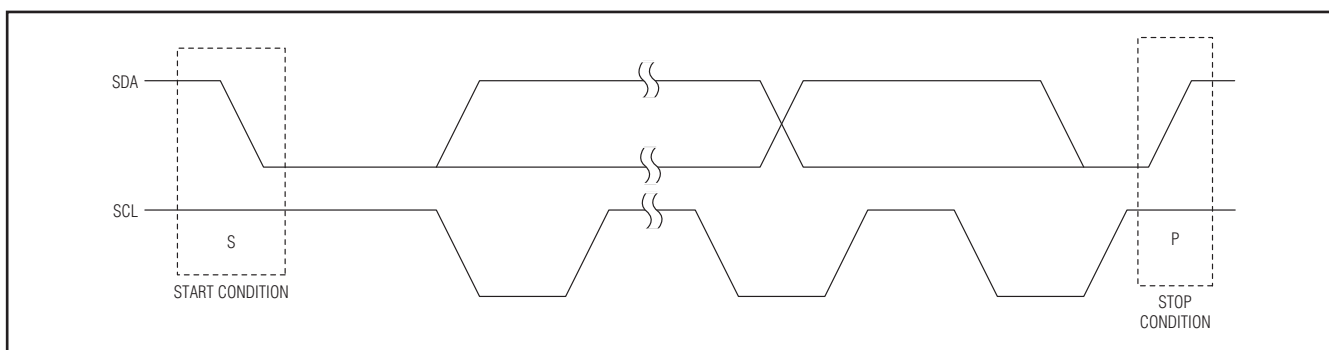

Figure 3. START and STOP Conditions
Each transmission consists of a START (S) condition sent by a master, followed by a 7-bit slave address plus a NOP/ \bar{W} bit. See Figures 3, 4, and 7.